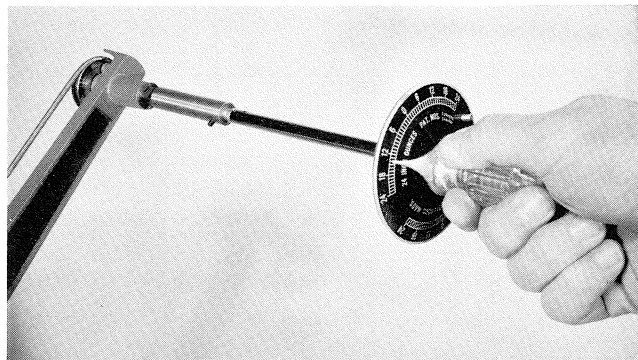

Figure 3-38. REVERSE DRIVE FILM TENSION
6. Reverse Drive Film Tension (Reverse Supply Reel Spindle Torque) Figure 3-38